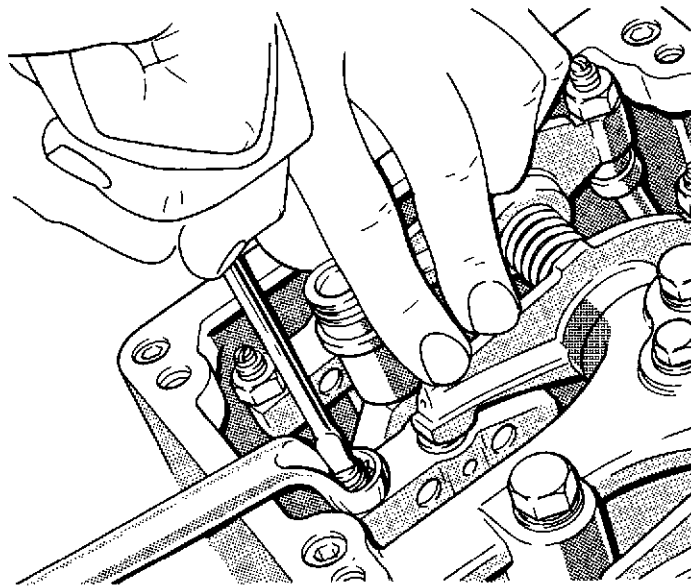

Fig. 4 Setting valve bridges
- 8 Press down firmly on the centre of the bridge piece and turn the adjusting screw until it is felt to just touch the valve stem tip (see fig. 4).